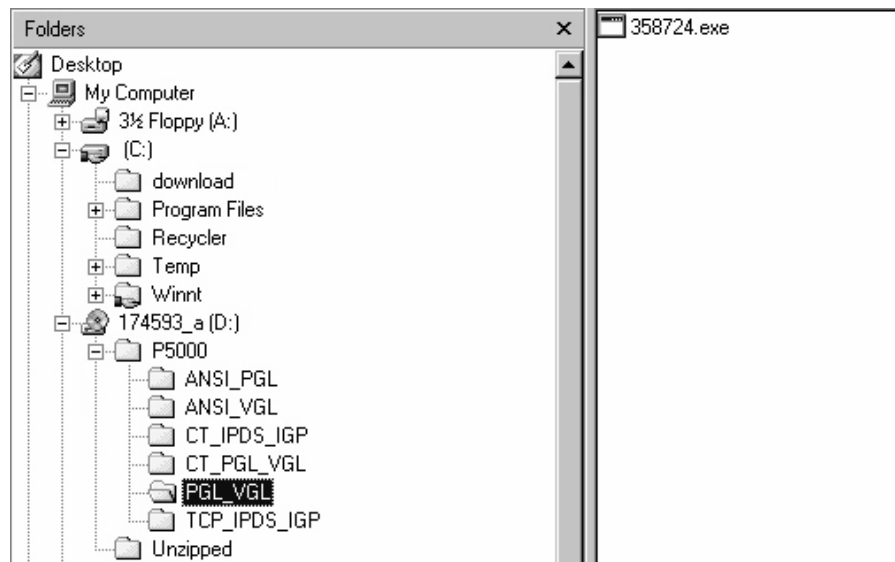

Figure 16. Navigating to the Appropriate Emulation File on the CD
17. Using Windows Explorer, navigate to the appropriate file on the CD based on the printer model number and desired emulation, e.g., P5000 ► PGL_VGL. (See Figure 16.)